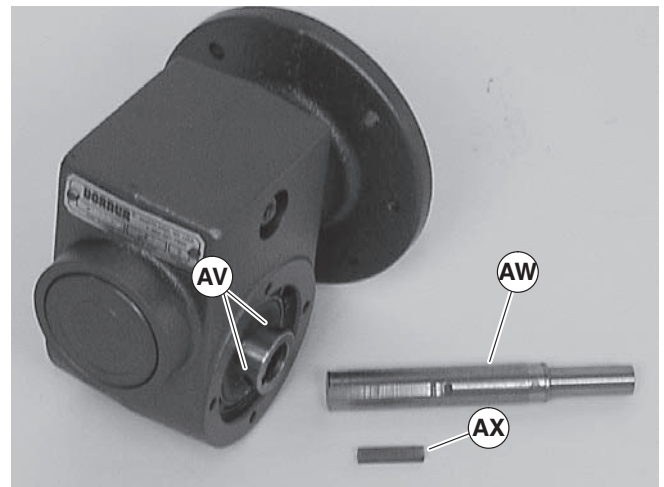

Figure 29
9. Remove two (2) screws (AS) and detach output shaft cover (AT).
10. Remove gear reducer output shaft key (AU).
11. Loosen six (6) set screws (Figure 29, item AV). Remove drive shaft (AW) and key (AX).
13. Replace the original shaft components into new gear reducer (see Figure 29). Tighten set screws (AV) to 26 in-lb (3 Nm).